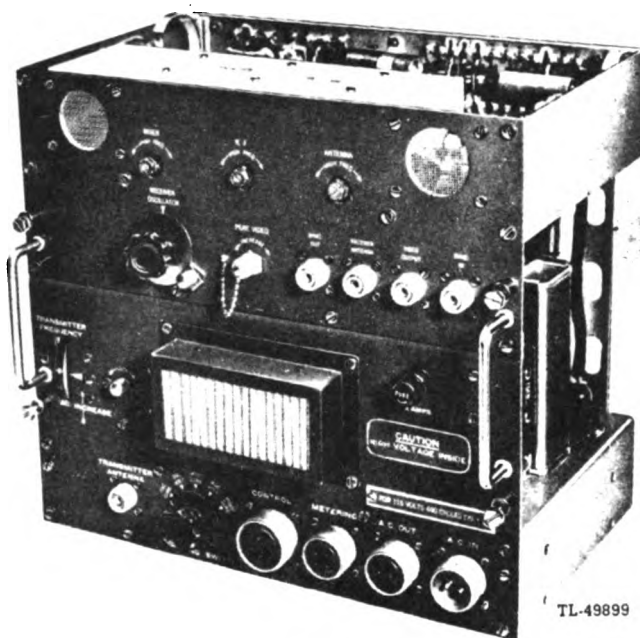

Figure 24. Transmitter-Receiver RT-48A/TPX-1, front view, case removed.
moved from the hanging bracket on the radar set as described under item 3 above. To remove the chassis from the case (fig. 24), loosen the four bright nickel-plated, slotted,  $\frac{3}{8}$ -inch, hex-head captive screws located just above and below the handles. Use the  $\frac{3}{8}$ -inch hex Spintite socket wrench provided in the tool equipment. Pull the chassis unit out of the case by pulling straight out on the handles.